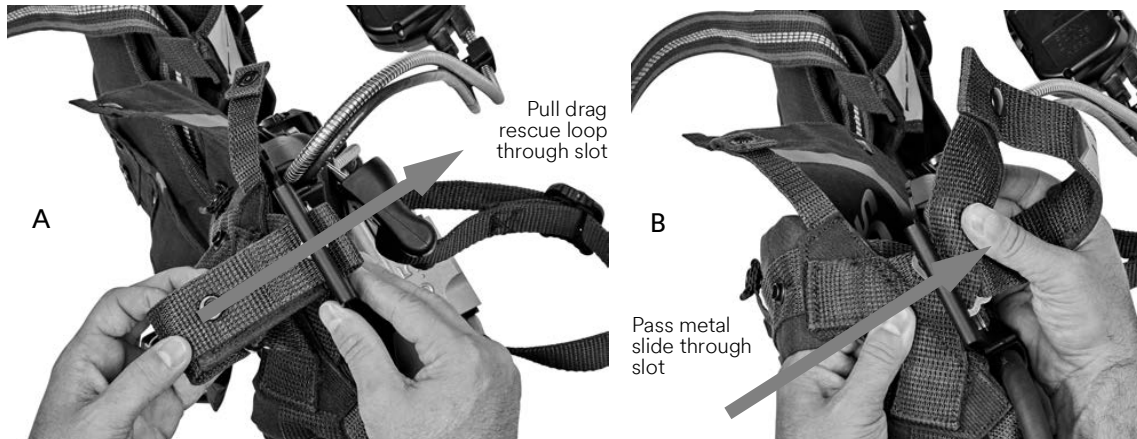

Figure 2-24 Passing the drag rescue loop through the upper slot of the clevis: A) Lining up the snaps. B) Passing the metal slide through the clevis.
- a Align the snaps on the loop with the center of the slot and carefully pull the loop through the slot, taking care not to damage the snaps. See picture A in Figure 2-24.
- b Flatten the metal slide and pass it through the upper slot. Lift the shoulder pads to help the slide pass through the slot. See picture B in Figure 2-24.